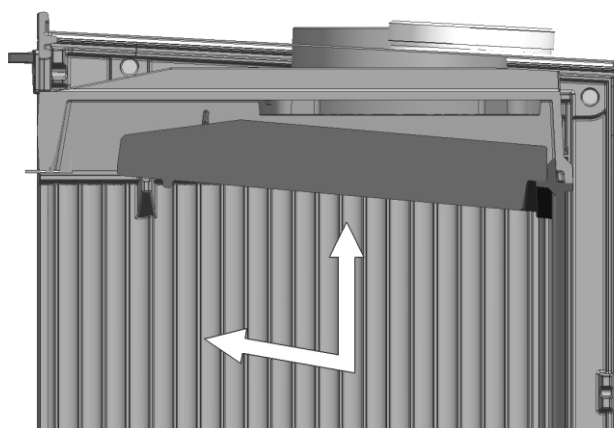

Fig. 1
1. A –Slide the deflection plate forward and upward until the side tabs on the deflector are free (Fig.1)